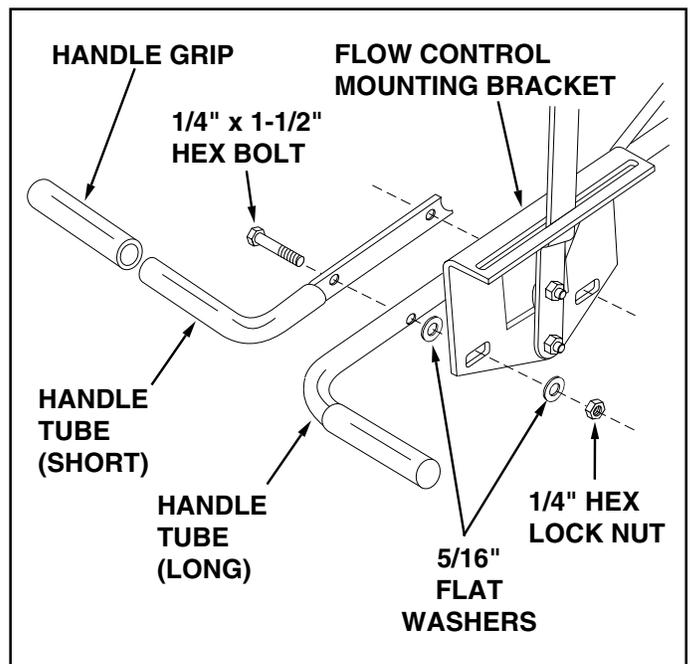

FIGURE 11
20. Assemble both the flow control mounting bracket and the short handle tube to the long handle tube. Use two 1/4" x 1-1/2" hex bolts, four 5/16" flat washers and two 1/4" hex lock nuts as shown in figure 11. **Do not tighten at this time.**
21. Place a handle grip on each handle. See figure 11.